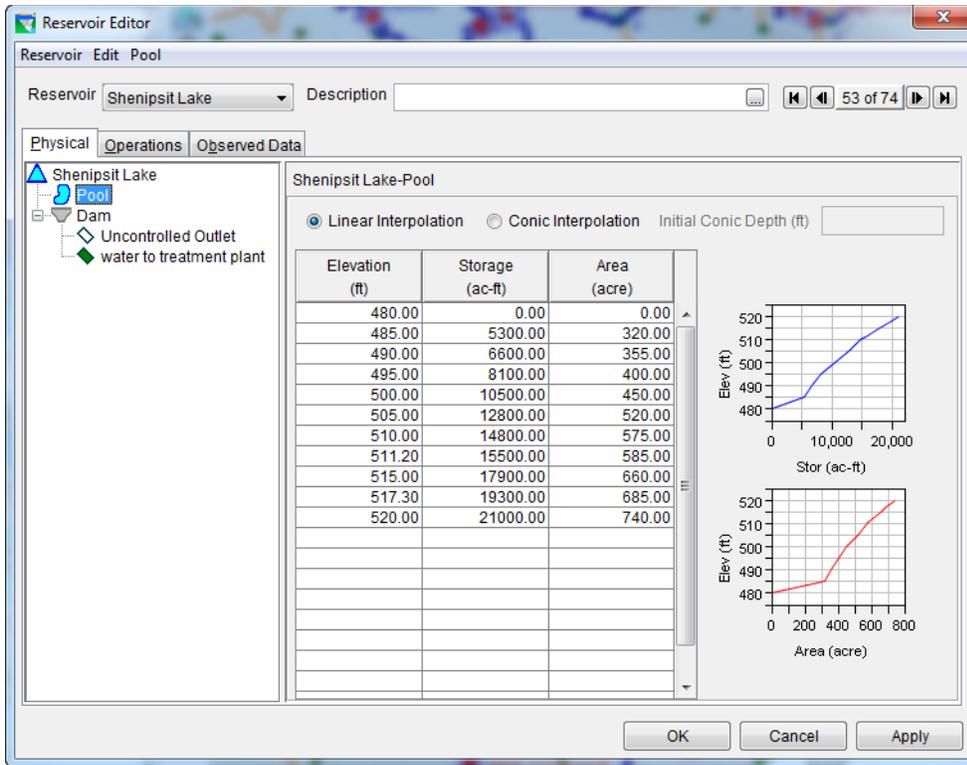
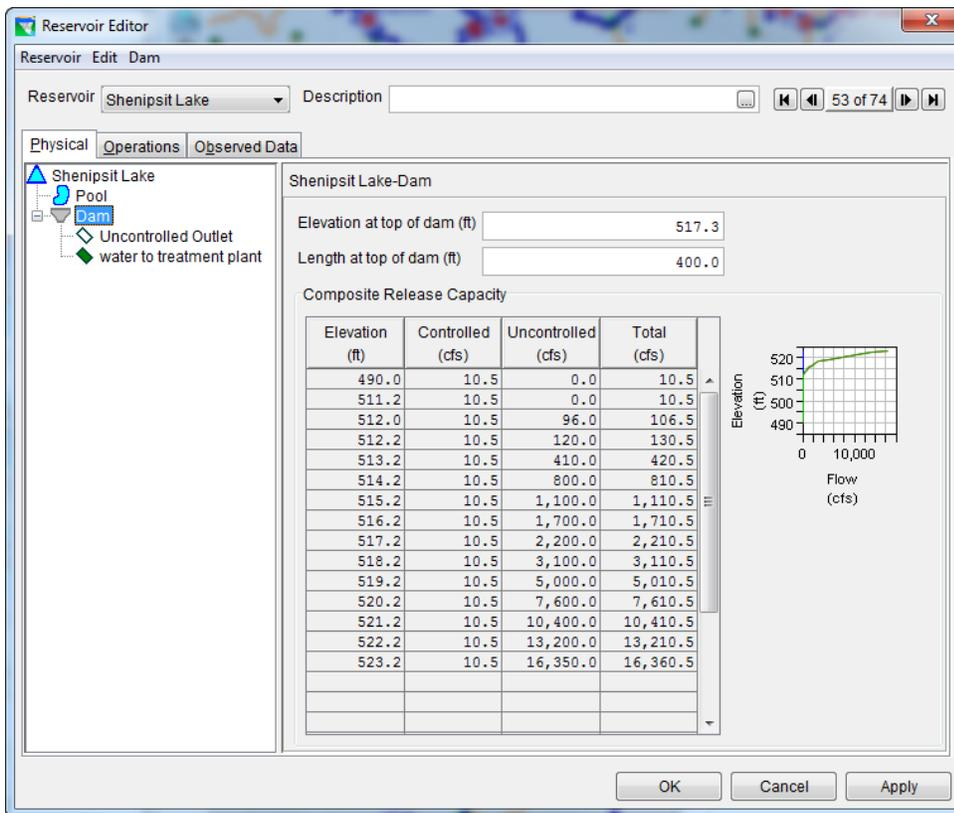

Figure 3: Reservoir Editor: Physical Tab -- Pool
Figure 4: Reservoir Editor: Physical Tab -- Dam
The physical characteristics of the reservoir are separated between the Pool and the Dam in the HEC-ResSim model. The elevation-storage-area defines the pool as shown in Figure 386. The dam consists of two types of outlets: (1) uncontrolled outlet, and (2) controlled water to treatment plant gate as shown in Figure 4.
Zones are used to define the operational storage in the reservoir to determine the reservoir release through analysis of the rules contained within each zone. Figure 4 shows the definition of Shenipsit’s “Existing Ops” operational zones, which consist of zones of Top of dam (517.3 ft), Flood control (512 ft), Conservation (511 ft), and Inactive zone (490 ft)1.